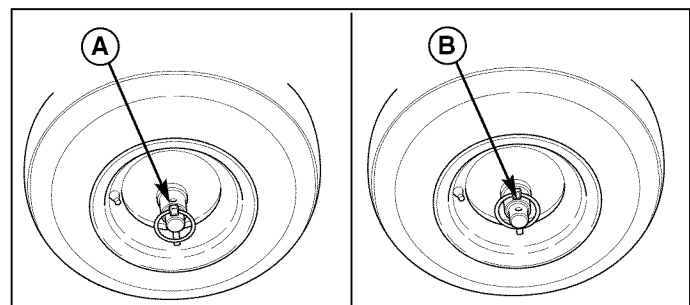

Figure 6. Traction Drive Lock
For easy turning when pushing the snowthrower, disengage the right wheel using the traction lock pin (See Figure 6.)
2. To **DISENGAGE** the traction drive lock, insert the Traction Lock Pin (A, Figure 6) through the outer hole in the right axle. The unit can now be pushed with minimal resistance.
3. To **ENGAGE** the traction drive lock, align the hole in the hub with the inner hole in the axle, and install the Traction Lock Pin (B).